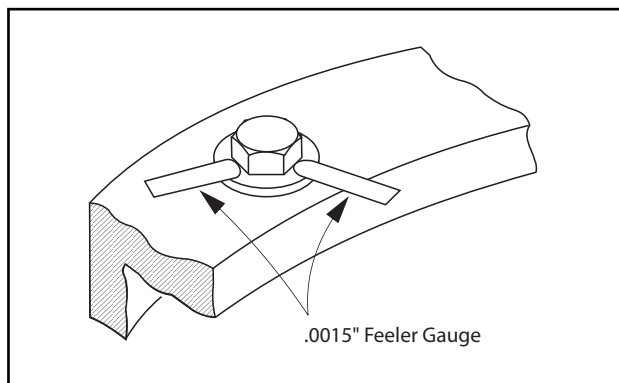

Figure 3-61. Swing Bearing Bolt Feeler Gauge Check
- b. Try and insert a 0.0015" feeler gauge between bolt head and hardened washer at position shown in Figure 3-61.
- b. try and insert a 0.0015" feeler gauge between bolt head and hardened washer at positions shown in Figure 3-61.
- d. Try and insert the 0.0015" feeler gauge between bolt head and hardened washer at position shown in Figure 3-61.